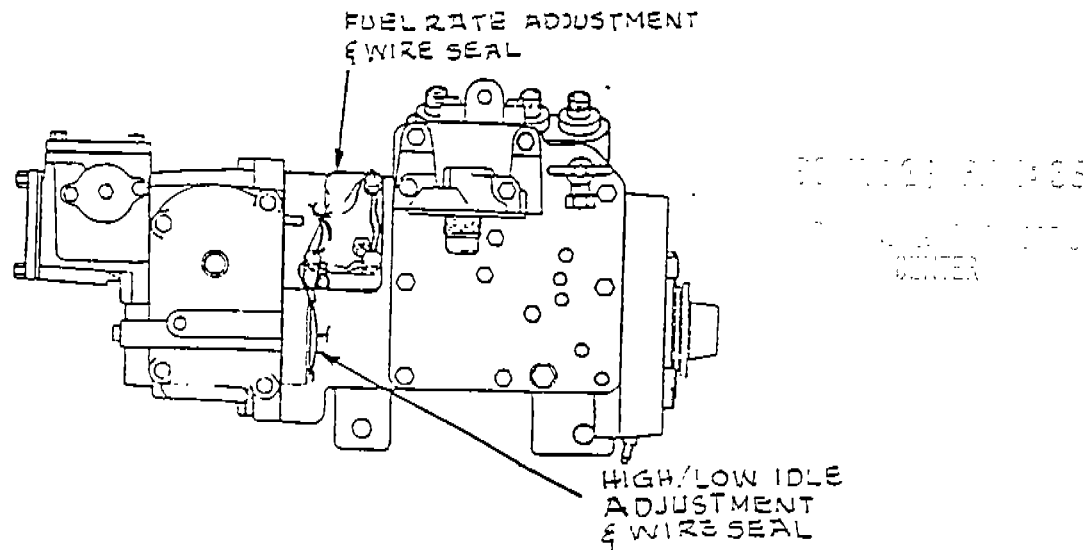

FIGURE 2- Sealed Engine Adjustments
- (WEEKLY) 7. () The fuel injection rate adjustment mechanism and the engine governor setting are locked and sealed. (FIGURE 2)*